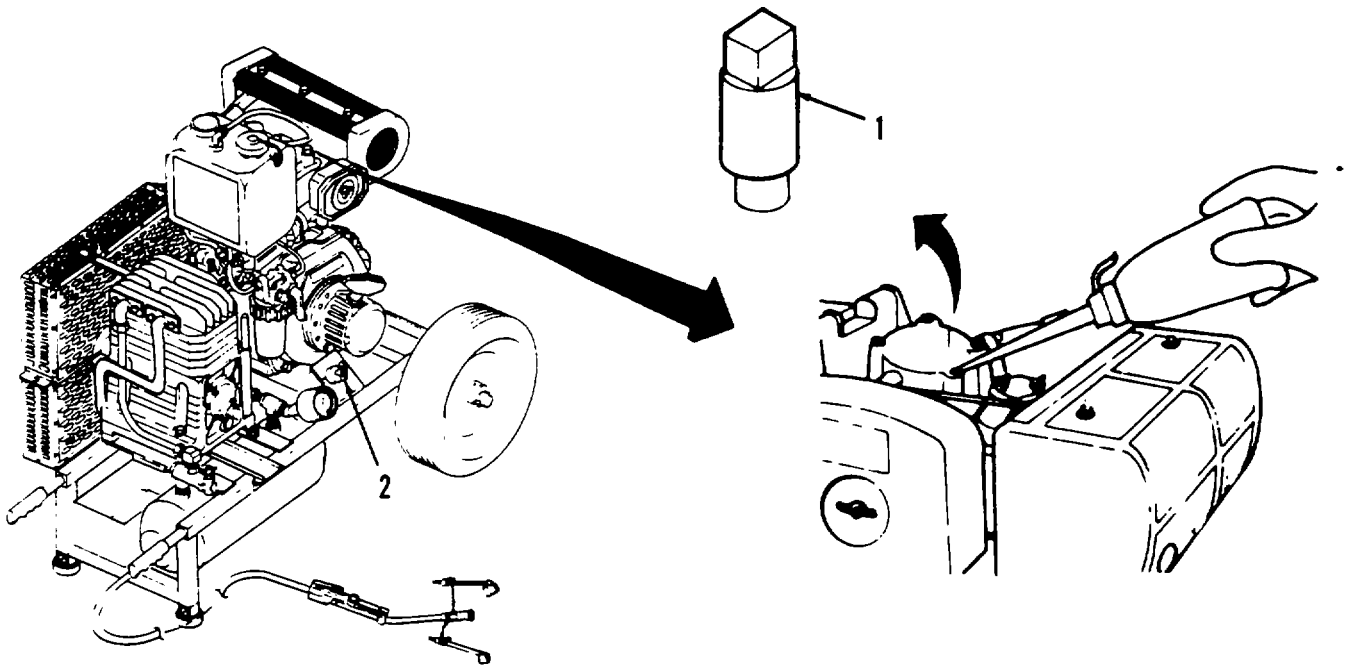

Figure 2-8. Cold Weather Starting Aid.
- (4) (Refer to Figure 2-8.) Cold weather starting can be improved by the addition of engine oil in rocker arm cover. Remove rubber plug (1) of rocker arm cover and add five or six drops of engine oil before starting.
- (5) Replace rubber plug (1) immediately after oil is added.
- (6) Turn key (2) in key switch to preheat position and hold key there for 30 seconds.
- (7) Release key (2) and allow it to return to OFF position.
- (8) Start the engine immediately as described in paragraph 2-9.